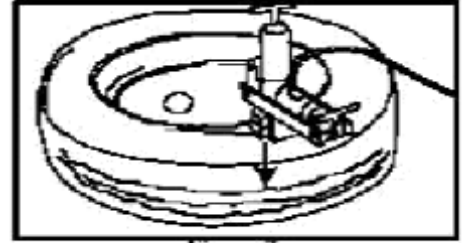

Figure 7
- Continue to apply hydraulic pressure until the bead breaking ram extends about 1/2 - 3/4 inch [13-19 mm] from the bead breaker. (See Fig. 7.) NOTE: Never try to break the tire bead with only one push. Instead, proceed to "Continuing to Break the Tire Bead". Move the bead breaker 8-12 inches [0,2 -0,3 m] from its current position.